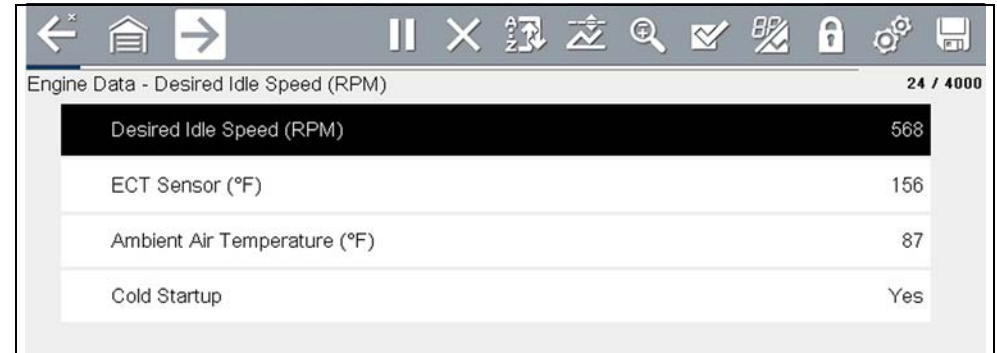

Figure 6-16
4. The custom list displays (Figure 6-16).